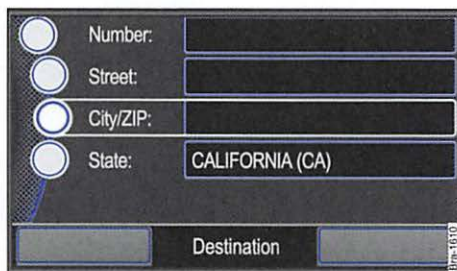

Fig. 46 Address entry window.
- Press one of the function buttons on the left hand side ⇒ fig. 46 to open the appropriate screen ⇒ fig. 47.